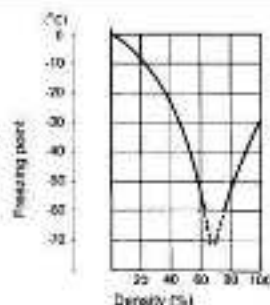

Fig. 1 Engine coolant density-freezing point
- If the motorcycle is to be exposed to temperatures below -31°C (-24°F), the percentage of antifreeze should be increased to 55 % or 60 %, according to figure 1.